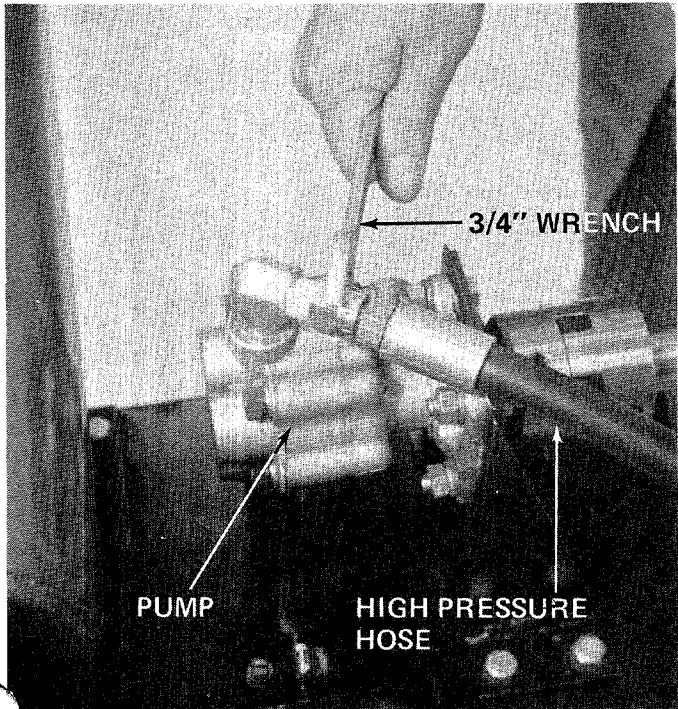

FIGURE 9
9. Secure the other end of high pressure hose to pump. A 3/4" wrench is required. See figure 9. Hold 5/8 hex on hole assembly while tightening cap.